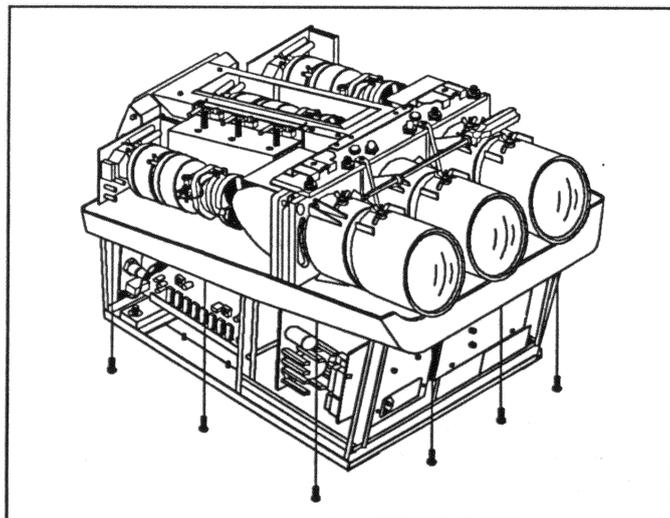

FIGURE 5-7. Lower Case Removal 02080806
- b) Remove the 16 Phillips head screws securing the lower case to the chassis. See Figure 5-7.